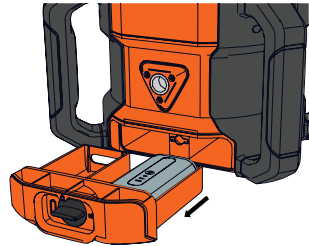

Figure 12
2. Remove battery compartment from rotary laser. (Figure 12)